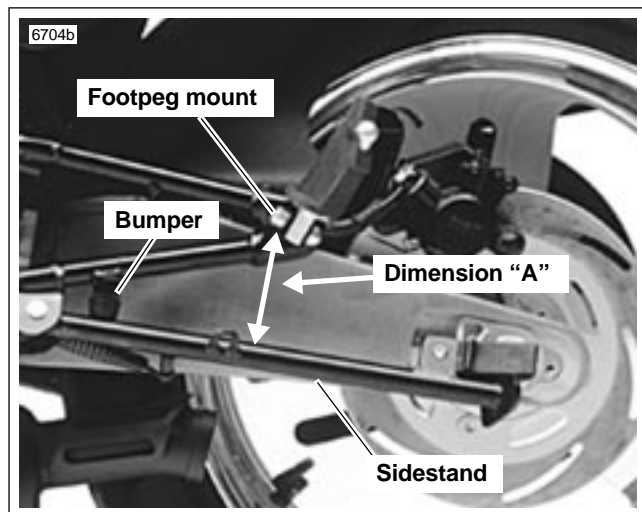

Figure 4. Dimension "A" Measurement
- See Figure 4. Dimension "A" is determined by measuring the distance perpendicular to the top side of the sidestand to the lower edge of the passenger footpeg front mount tab.
2. See Figures 4 and 5. Establish correct sidestand retraction angle by using either the new cylindrical bumper or the new conical bumper in conjunction with up to three spacer washers. The sidestand retraction angle is defined by Dimension "B". Dimension "B" must be within 0.500-0.625 in. (13-16 mm). Keeping Dimension "B" within specifications listed, measure Dimension "A". Dimension "A" must not exceed 3.125 in. (79 mm).
2. See Figures 4 and 5. Establish correct sidestand retraction angle by using either the new cylindrical bumper or the new conical bumper in conjunction with up to three spacer washers. The sidestand retraction angle is defined by Dimension "B". Dimension "B" must be within 0.500-0.625 in. (13-16 mm). Keeping Dimension "B" within specifications listed, measure Dimension "A". Dimension "A" must not exceed 4.5 in. (114 mm).